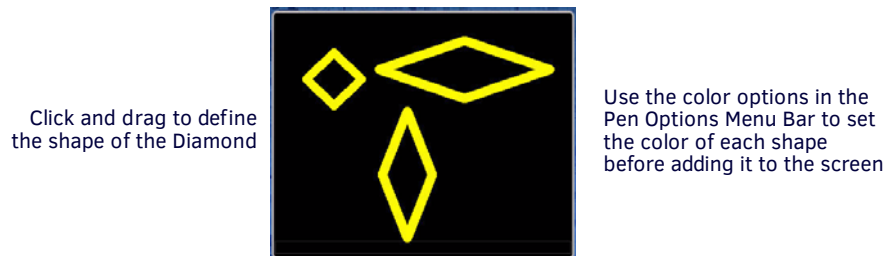

FIG. 101 Drawing Diamonds
- **Diamonds** - The diamond tool draws equilateral diamonds (FIG. 101):